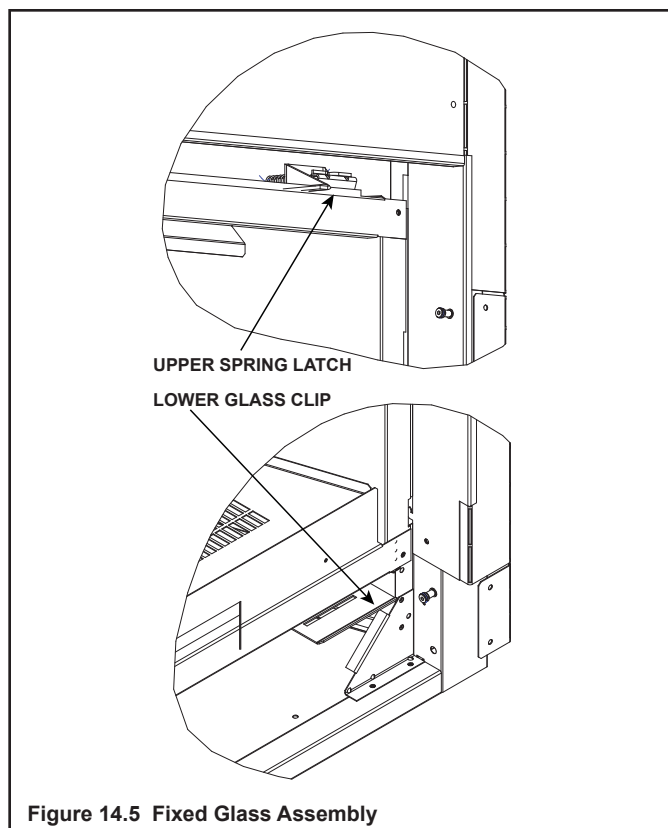

Figure 14.5 Fixed Glass Assembly
3. Use both index fingers to release spring latches. See Figure 14.5.
4. Put pressure on the glass as you allow the glass assembly to drop into the two lower glass clips. See Figure 14.5.